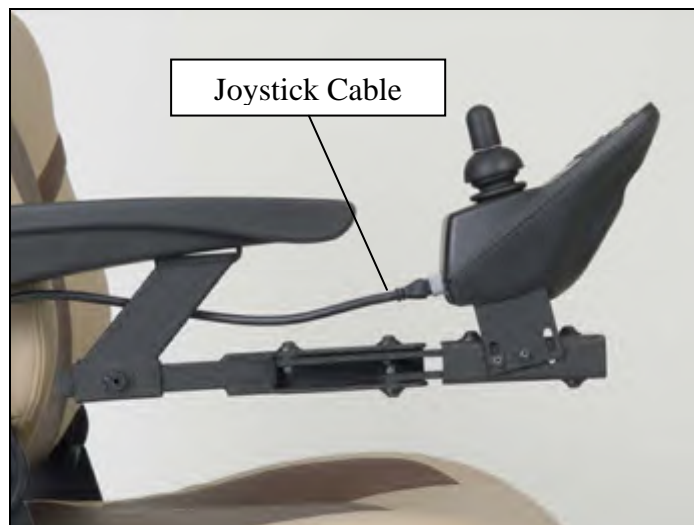

Figure 2
4. Connect the joystick cable to the controller cable. See figure 2.
1. Disconnect the controller cable from the joystick. “Unclip” from arm and remove Velcro® tie-wraps. See figure 2 on page 13.
2. Lift the front and rear seat lock handles and slide the seat until all (4) of the seat guides are out of the receivers.